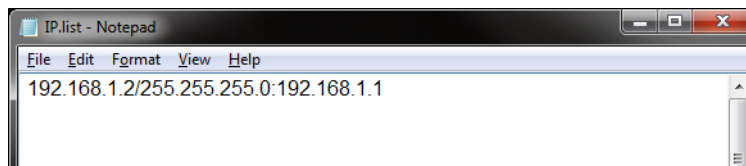

Figure 94 Example IP.list.txt Text File
- **IP.list.txt** - Edit the IP.list.txt file so that the correct IP address details are in the file (see Figure 94)